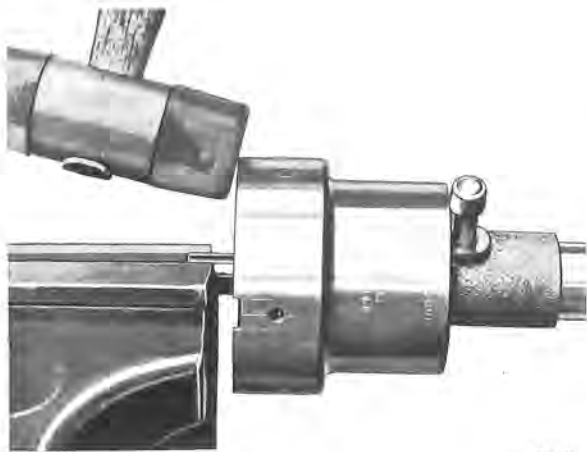

Fig. 3-65. Removing circlip
4. Disconnect the springs to the centrifugal governor and mark up where the breaker cam is located in relation to the distributor shaft. Secure the breaker cam in a vice with soft jaws, see Fig. 3-65.